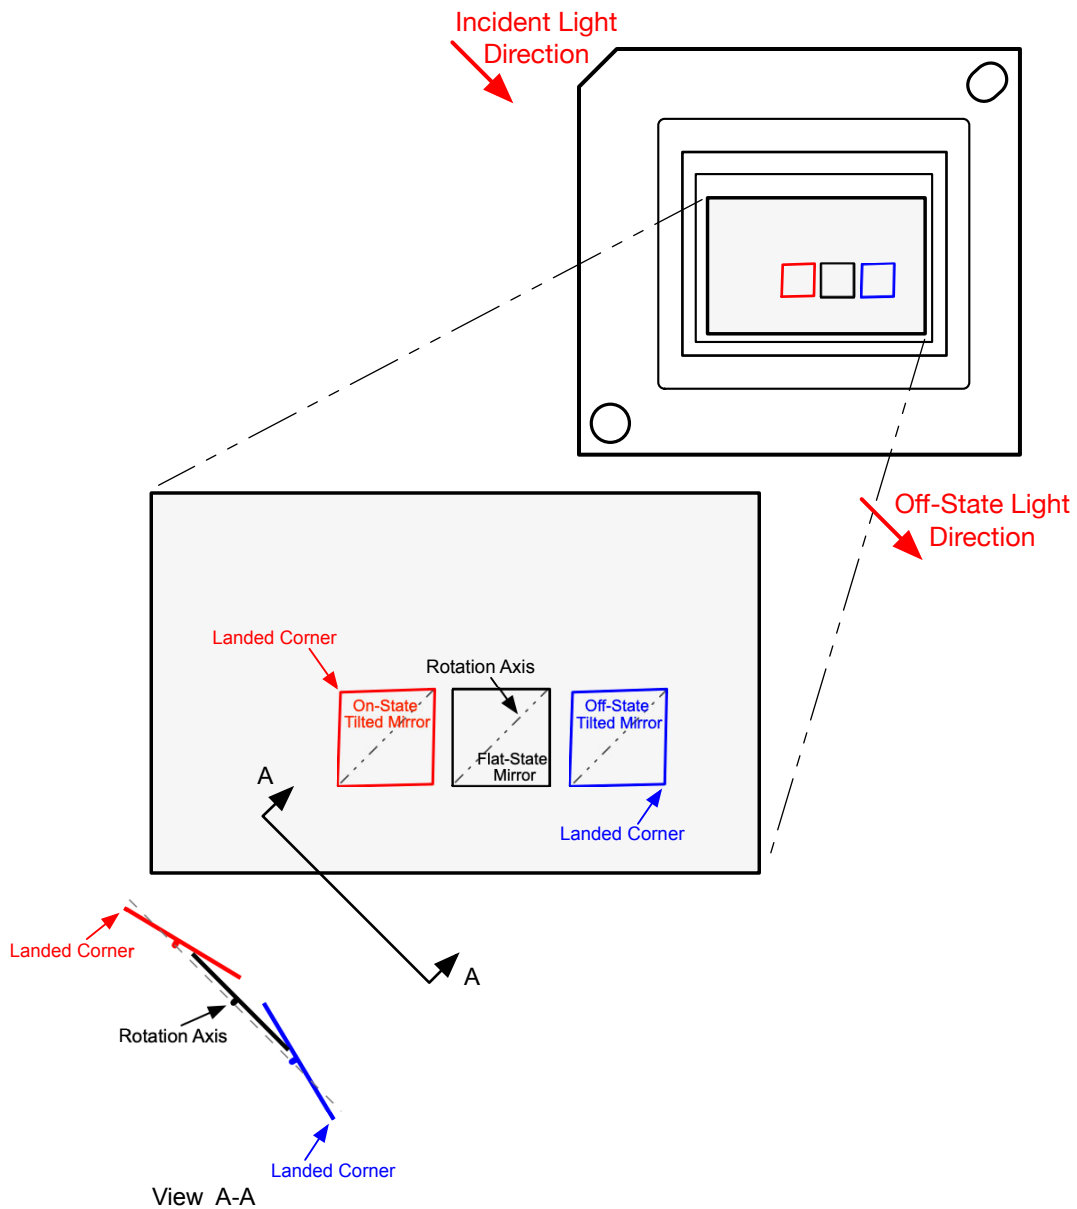

图 6-11. Micromirror Landed Orientation and Tilt
- (1) Measured relative to the plane formed by the overall micromirror array.
- (2) Additional variation exists between the micromirror array and the package datums.
- (3) Represents the variation that can occur between any two individual micromirrors, located on the same device or located on different devices.
- (4) For some applications, it is critical to account for the micromirror tilt angle variation in the overall system optical design. With some system optical designs, the micromirror tilt angle variation within a device may result in perceivable non-uniformities in the light field reflected from the micromirror array. With some system optical designs, the micromirror tilt angle variation between devices may result in colorimetry variations, system efficiency variations or system contrast variations.
- (5) Refer to Figure 6-11.
- (6) The time required for a micromirror to nominally transition from one landed state to the opposite landed state.
- (7) The minimum time between successive transitions of a micromirror.
- (8) Conditions of Acceptance: all DMD image performance returns are evaluated using the following projected image test conditions:
- (9) Bright pixel definition: a single pixel or mirror that is stuck in the ON position and is visibly brighter than the surrounding pixels